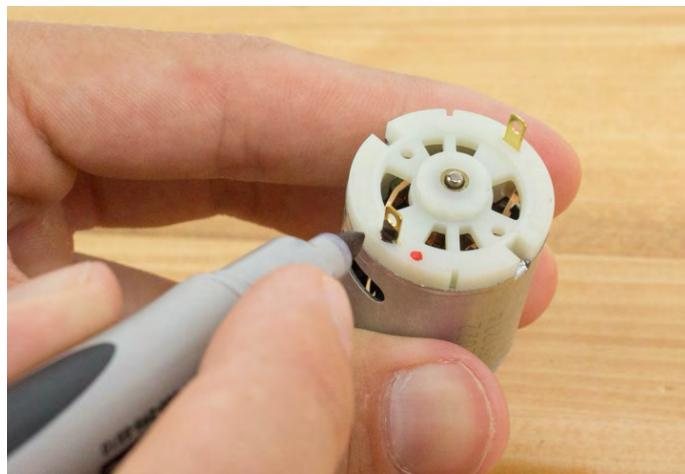

Figure 14
- Before taping, make a mark directly on the terminal that has a red dot by it using the permanent marker. (Figure 14) This is the positive side of the motor. The die cut sticker may cover the mark, so it is important to be able to correctly identify this terminal when attaching the wires to the motors later in this section.